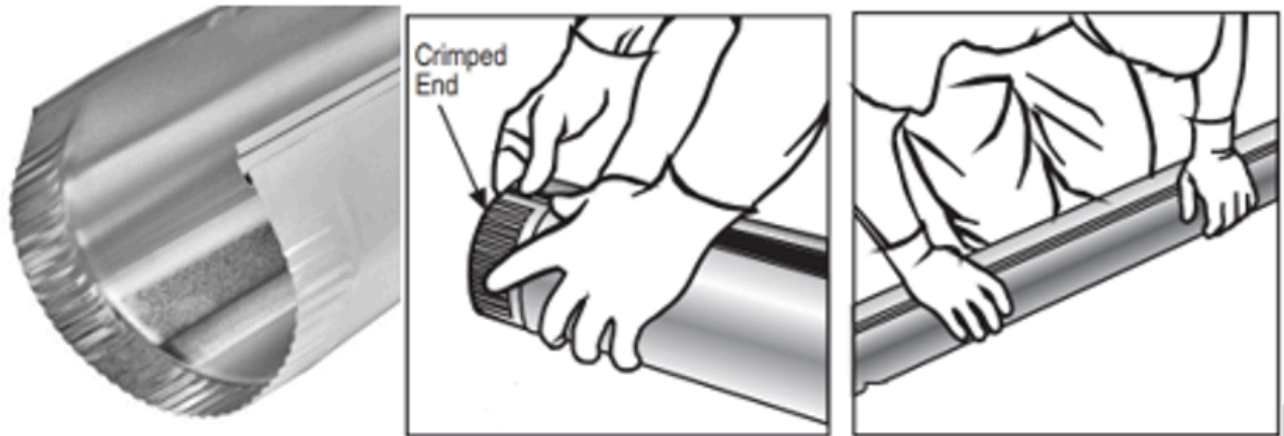

Figure 14. Round duct assembly
To create finished pipe lengths, start at the crimped end and snap the two sides together (Figure 14). Hold together with one hand and move down the pipe as the seam snaps in. When you get halfway, it should snap fully closed.
- Figure 14. “Round duct assembly” by Camosun College is licensed under a CC BY-NC-SA licence (<https://creativecommons.org/licenses/by-nc-sa/4.0/deed.en>).